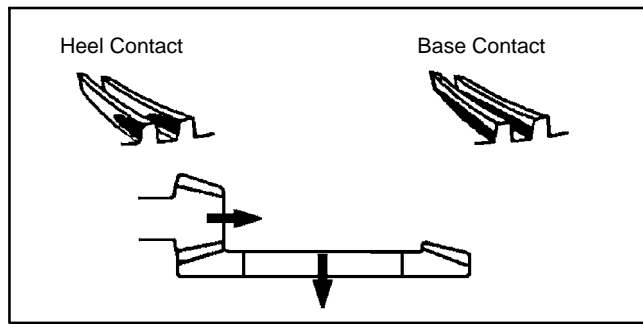

Figure 46
Study the different contact patterns (Figs. 46 and 47) and correct gear engagement as necessary.
1. If contact is toward the heel or base of the gear (Fig. 46):